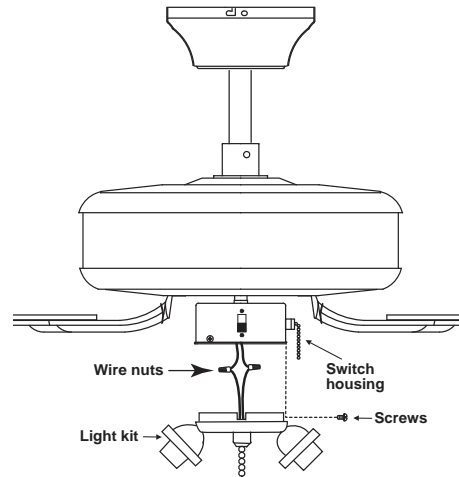

Figure 19
Step 2. Raise and hold the light kit close to the switch housing and proceed to do the wire connections, connect the blue wire from the switch housing to the black wire from the light kit. follow the same procedure with the black connectors. Use the wire connecting nuts supplied with your fan. (Fig. 19)
Step 3. Attach the light kit to the switch housing by using the three (3) screws that remove on the Step 1. (Fig. 19)